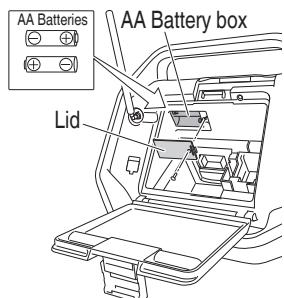

Fig. 2
2. Open the backup battery storage box and insert the two AA batteries (included) into the storage box in the direction indicated. (Fig. 2)